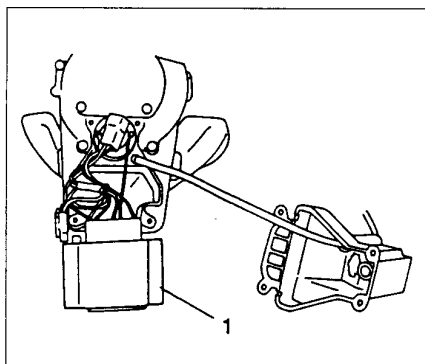

Fig. 3-10
4. After removing the fan case cover, pull out the battery with the waterproof cover (1). (Fig. 3-10)